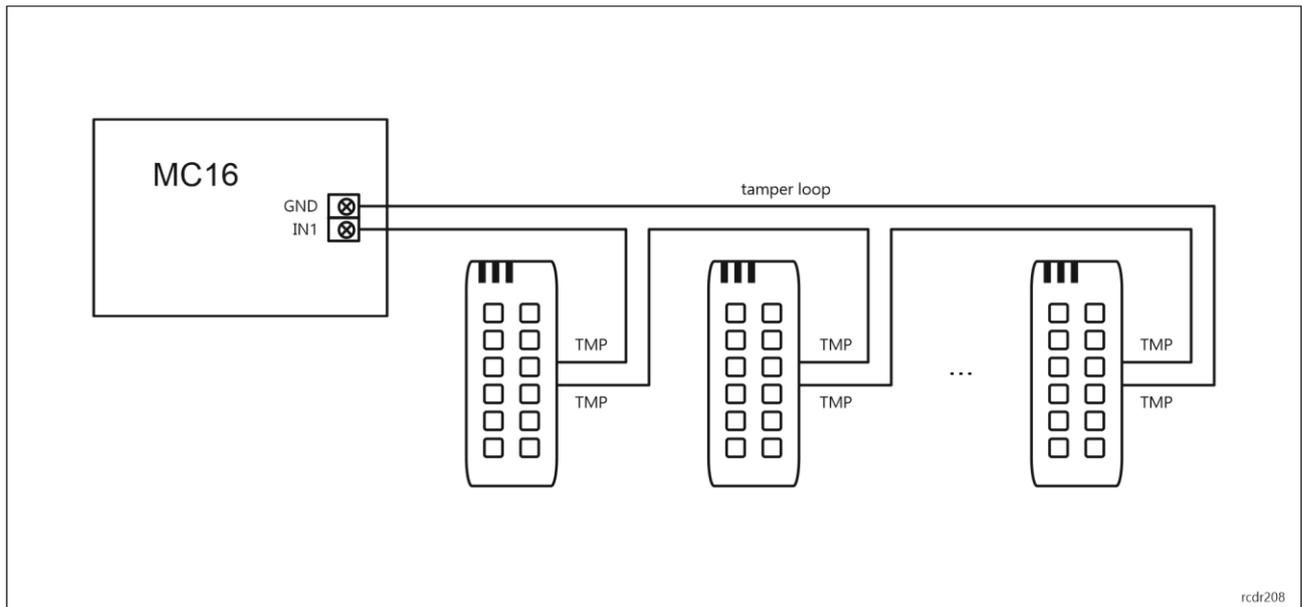
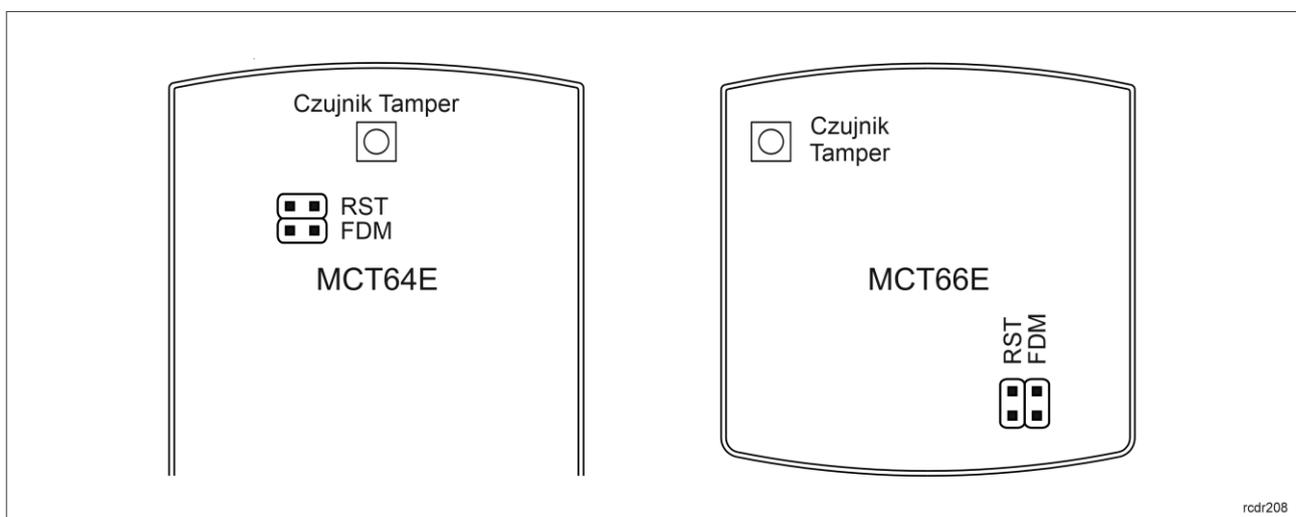

Fig. 3 Tamper loop example
Fig. 4 Programming jumpers
Built-in tamper (sabotage) detector enables detection of unauthorized opening of device's enclosure as well as detachment of the enclosure from wall. The detector is internally connected to TMP screw terminals. It does not require low level configuration (RogerVDM) but it is necessary to connect it to controller with wires as in example in fig. 3. It is also essential to mount front panel in such way as the tamper detector (fig. 4) would firmly press the back panel.
- Front panel should be attached in such way as the tamper detector (fig. 4) would firmly press the back panel.
2. Place jumper on FDM contacts (fig. 4).